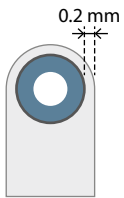
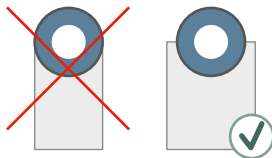

Figure 10
Figure 11
- Full pull tabs (Figure 10) and partial pull tabs (Figure 11) should extend 0.2 mm beyond the vent.